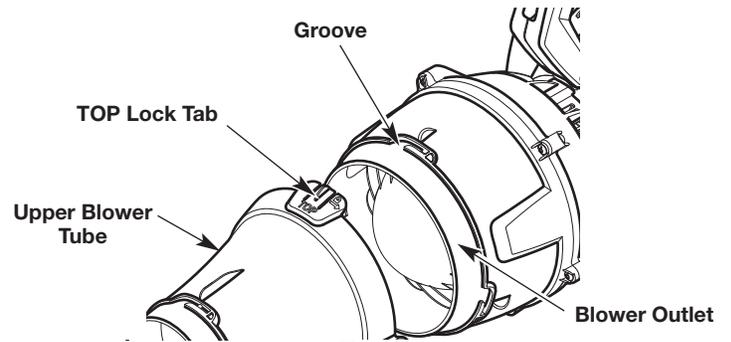

Fig. 2
3. Align the TOP lock tab on the upper blower tube with the groove on the blower outlet (Fig. 2).